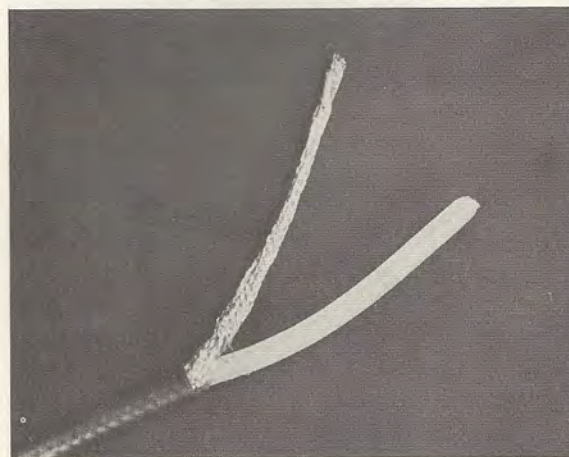

Fig. 2-28
Step 3. Tin each of these loose ends of braid back for about one inch from the end. The plastic used in the inner insulation melts at a low temperature, so be very careful not to get the iron too close to it. At this point, each end should look like the picture in Fig. 2-28.